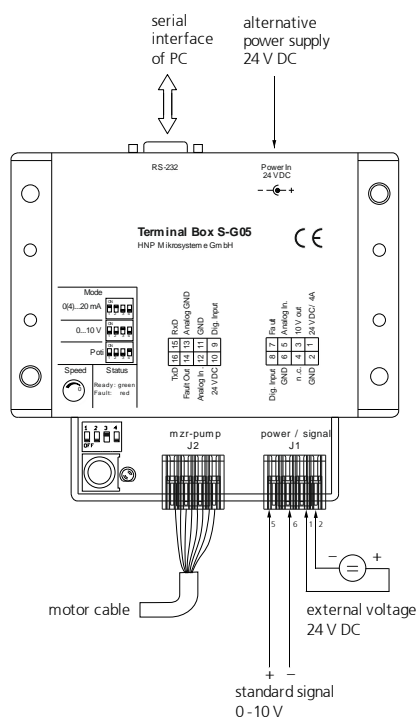

figure 22
10. Connect an external 0-10 V voltage supply to the terminal clamps »AnalogIn« and »GND« to the S-G05. (see figure 22)
24. Connect an external 0-10 V voltage supply to the terminal clamps »AnalogIn«, »10 V« and »GND« to the S-G05.(see figure 22)